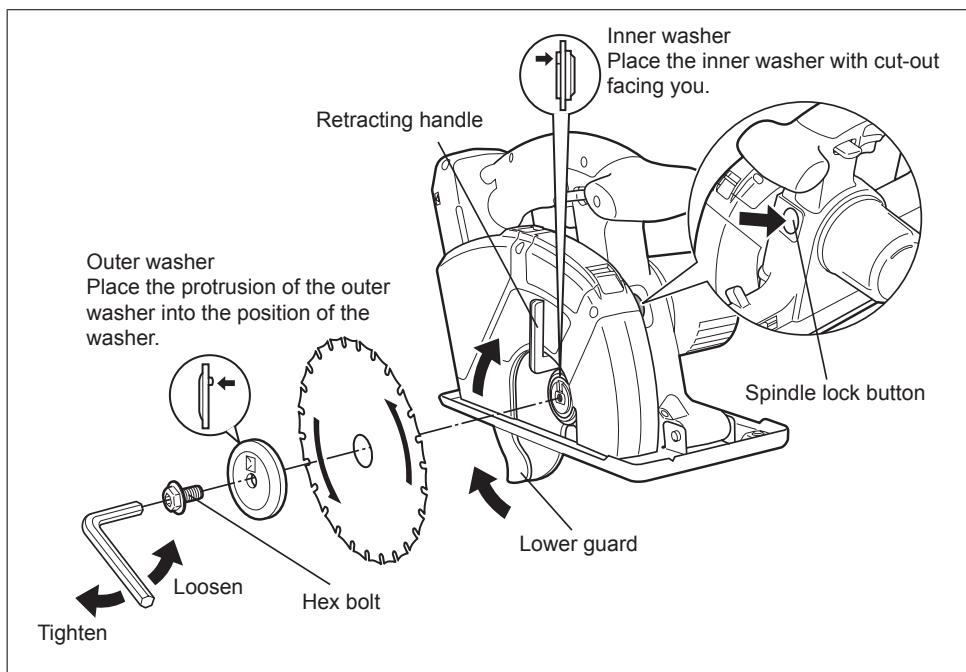

Fig. 6
Make sure the hex bolt is tightened securely. (See Fig. 6)
4. Install the blade as illustrated. (See Fig. 6)